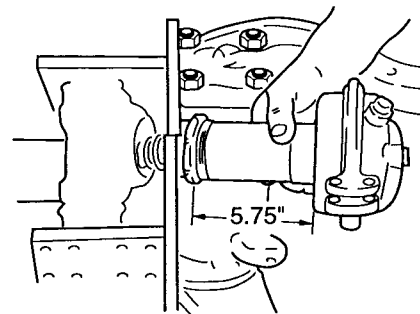

Figure 31 Checking the Brake Chamber Dimension
36. Install brake shoes and brake air chamber onto brake anchor. Check that brake plunger wedge assembly fits all the way into housing when screwing in air chamber. Lock chamber in position with lock nut provided. Check 5.75"±1.12" dimension from lock nut to base of air chamber to ensure that the plunger assembly makes proper contact. (See Figure 31).